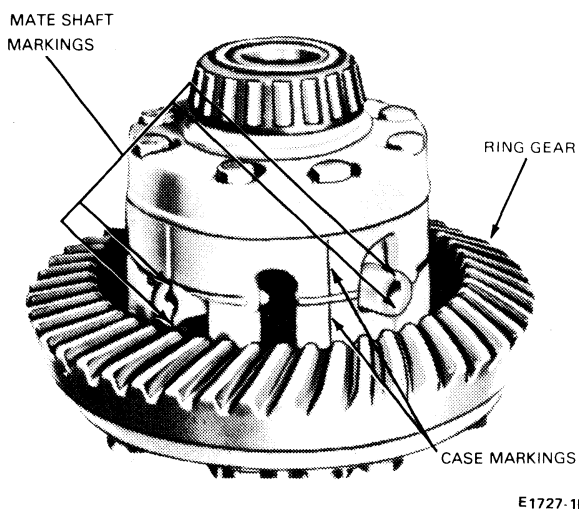

FIG. 13 Case and Mate Shaft Markings (Model 70)
1. Mark the ring gear half and cover half of the differential case so that they can be re-assembled in the same relative positions. Mark the pinion mate shafts and their corresponding ramps so that they too can be re-assembled in the same positions (Fig. 13).